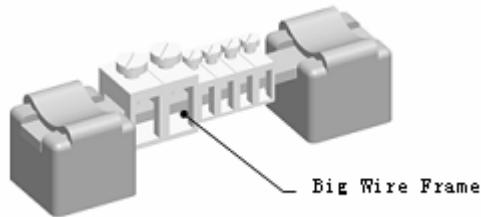

Figure 5-11 Grounding copper bar
5. Fix the grounding wires from the collected grounding plate by the big wire frame of the grounding copper bar, as shown in Figure 5-11.
3. Fix the grounding wires from the collected grounding plate by the bug wire frame of the grounding copper bar, as shown in Figure 5-11.